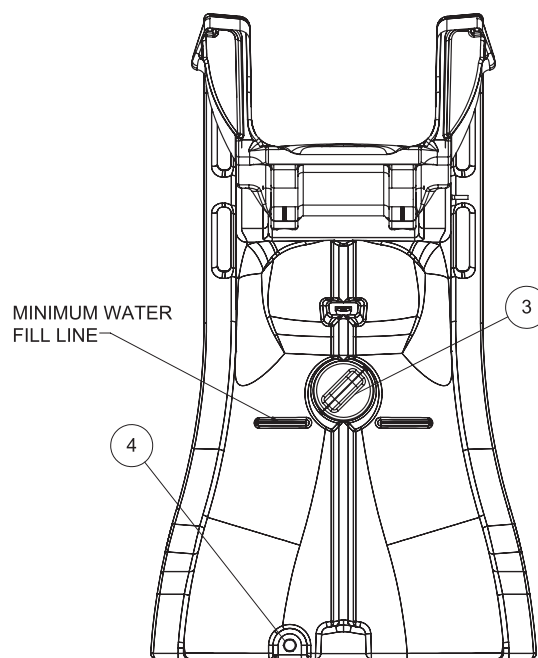

Figure 12
4. **The slide must not be used unless the ladder is filled with water up to the minimum fill line, see Figure 12.**
5. Install the plug (4) into the drain hole shown in **Figure 12**. It is recommended to use a thread sealant or Teflon tape on the threads to prevent leaking. To fill the ladder with water, remove the fill cap (3) by turning counter clockwise and pulling outward to remove. Remove the cap and fill ladder base with water up to the minimum fill line. Replace the cap by inserting into the hole and turning clockwise to lock into place.